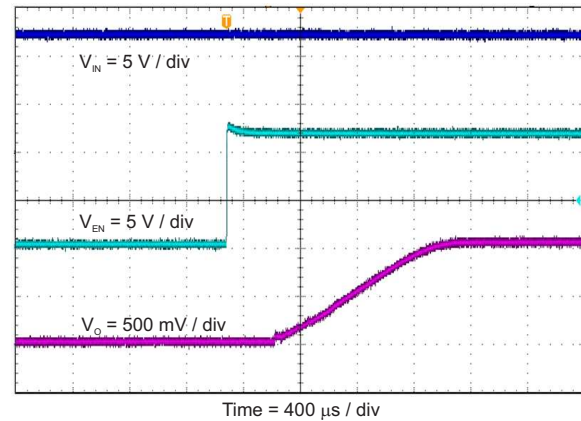

Figure 11. Start-Up Relative to EN
The TPS563201EVM-715 start-up waveform relative to enable (EN) is shown in Figure 11. Load = 1  $\Omega$  resistive.